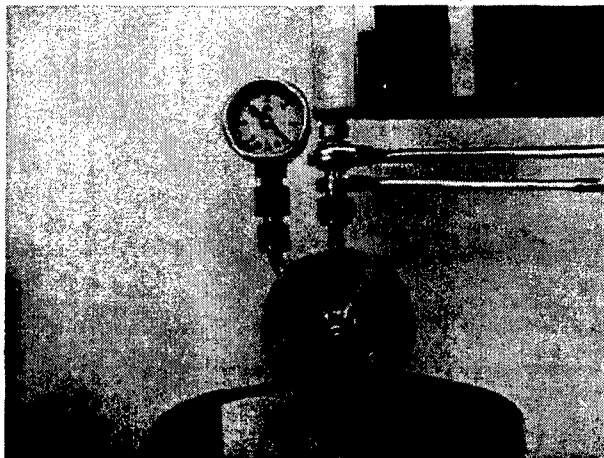

Figure 6-4.6. Connecting Alicat flow check device to flow restrictor
- 7 Connect the outlet of the Alicat flow check device to the inlet of the restrictor as shown in figure 6-4.6. The arrow on the Alicat device should be pointing toward the canister. Tighten the swagelock on the outlet of the Alicat* with a 9/16" wrench until firmly snug. If the swagelock nut on the inlet of the restrictor turns with the swagelock nut on the outlet of the Alicat, grasp the swagelock nut on the restrictor inlet with a 1/2" wrench and hold.